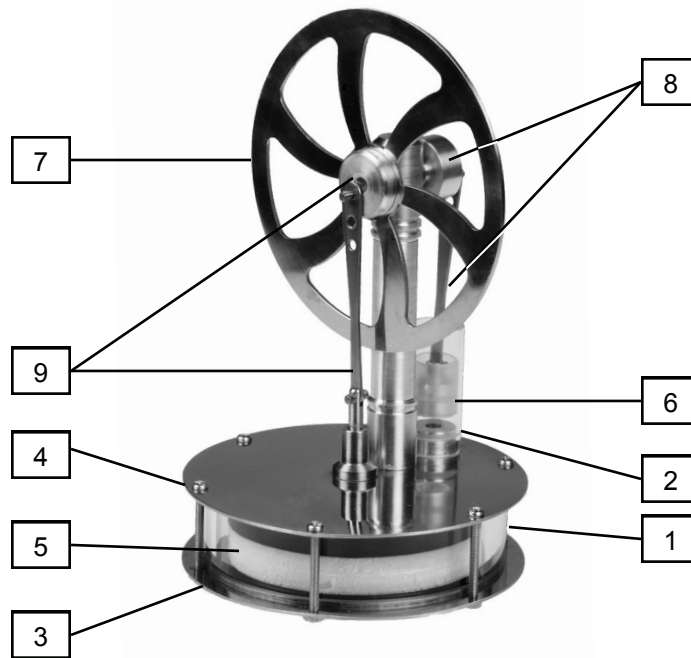

Figure 1
The engine is shown in *Figure 1*. The air is enclosed in a pair of connected cylinders, the displacement cylinder (1) and the compression cylinder (2). The displacement cylinder has two metal end plates (3 & 4) which are held at different temperatures to operate the engine. Inside the displacement cylinder is a loosely fitting piston (5) that moves air between the end plates and stores heat. Inside the compression cylinder is a tightly fitting power piston (6) that compresses the air in the cylinders and drives the flywheel (7) through a connecting rod and eccentric wheel (8). A second connecting rod and wheel (9) drives the displacement piston and maintains the correct relationship between the positions of the two pistons.